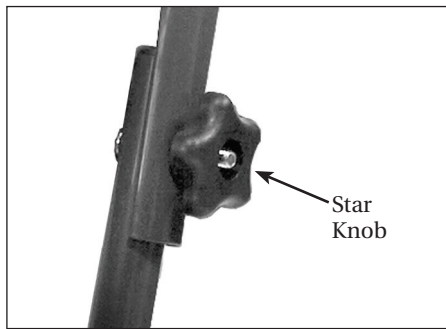

Figure 8 - Assemble handle
1. Slide the handle assembly over the lower legs of the cart base. Use the supplied nuts and bolts to secure the handle to the legs (see Figure 8).